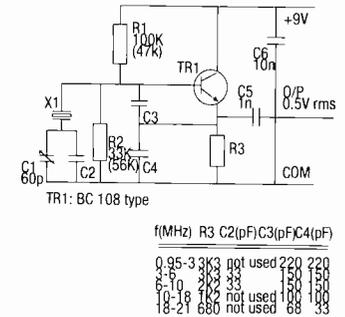

Fig. 6. Designed for use with high-stability AT-cut crystals, this oscillator operates between 0.95 and 21MHz.
Fig. 6 and 7 show the gain and efficiency of the SiGe HBTs and compares this to alternative processes.
a 70% power added efficiency at 900MHz and operation from either 3V or 1.5V supplies. (Figs 6 and 7)
0.95 to 21MHz. Circuitry in **Fig. 6** is designed for high-stability AT-cut crystals calibrated at parallel resonance and operating in fundamental mode.